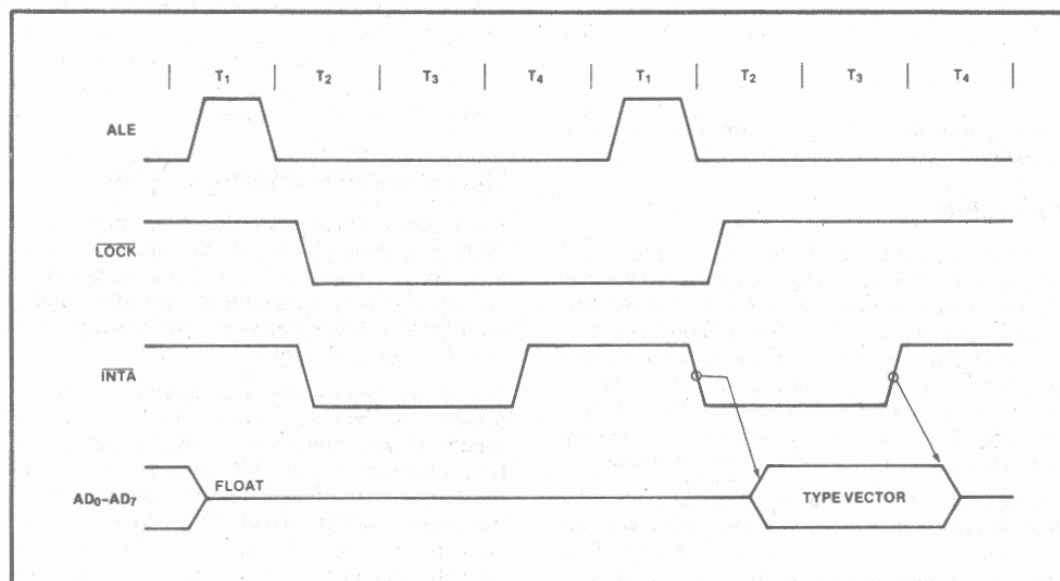

Figure 9. Interrupt Acknowledge Sequence
During the response sequence (See Figure 9), the processor executes two successive (back to back) interrupt acknowledge cycles. The 8088 emits the LOCK signal (maximum mode only) from T2 of the first bus cycle until T2 of the second. A local bus "hold" request will not be honored until the end of the second bus cycle. In the second bus cycle, a byte is fetched from the external interrupt system (e.g., 8259A PIC) which identifies the source (type) of the interrupt. This byte is multiplied by four and used as a pointer into the interrupt vector lookup table. An INTR signal left HIGH will be continually responded to within the limitations of the enable bit
The basic difference between the interrupt acknowledge cycle and a read cycle is that the interrupt acknowledge (INTA) signal is asserted in place of the read (RD) signal and the address bus is floated. (See Figure 9.) In the second of two successive INTA cycles,